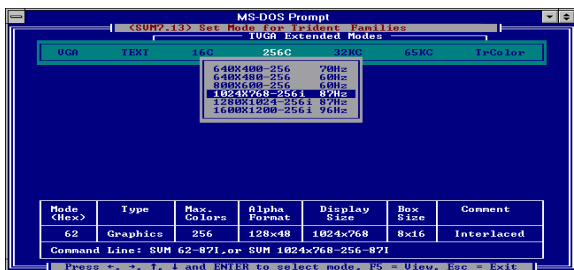

Figure 3-28.
- 2. TYPE SVM to call up the menu (see Figure 3-28).
The program provides all the different resolutions supported by the chip under each color depth. These resolutions are traversed by the up/down arrow keys. The graphics adapter can be tested for each resolution/ mode by first high-lighting the selection (e.g. 1024x768-256 colors as shown in Figure 3-28) by use of the arrow keys, then pressing the F5 key.